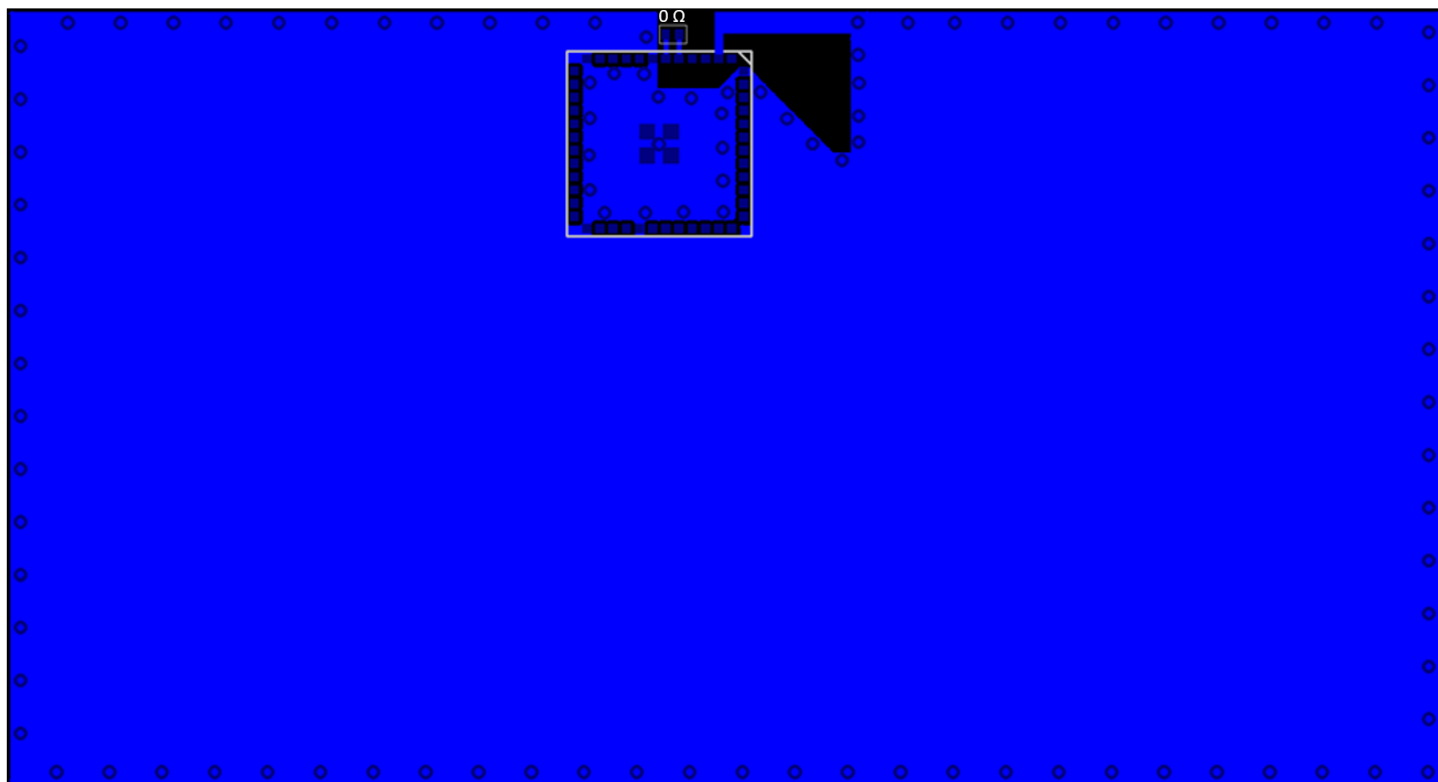

Figure 7.1. Recommended Layout for BGM240S (Integral Antenna)
- Place the module 1.50 mm from the edge of the copper “keep-in” area at the middle of the long edge of the application PCB, as illustrated in Figure 7.1 on page 37.